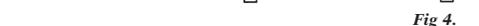

Fig 4.
12. Ensure the structure is vertical and square before fixing the Posts in place (see Fig.4).